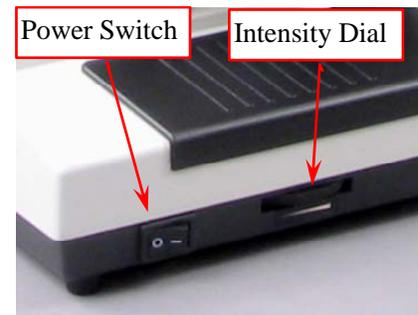

Fig.5
3.1 Adjusting illumination (Fig.5)